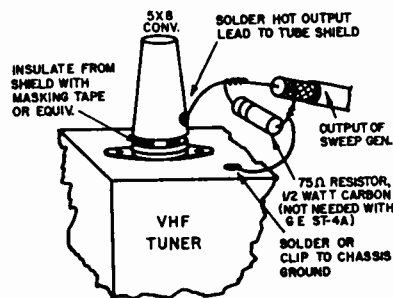

Fig. 15. I-F Sweep Jig
2. Connect sweep generator to capacity type jig shown in Figure 15. If General Electric sweep equipment is used, the indicated resistor should be omitted.